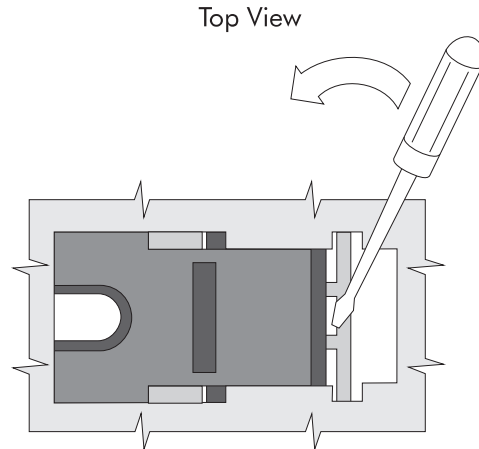

Figure 89. Removing and replacing the slide latches
4. Gently pry and press at the point shown in Figure 89.